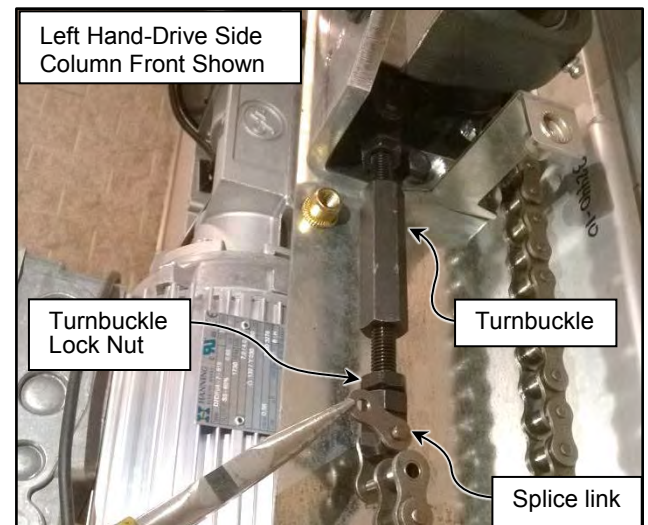

Figure 37
4. Loosen the locknuts on the turnbuckle. (See Figure 37)
5. Adjust the turnbuckle as necessary. Finish by tightening up the turnbuckle by hand, then another approximate 1-1/2 turns (with a wrench) until the chain is just tight enough to prevent coming loose or jumping off the sprockets. (See Figure 37)
6. Lock the turnbuckle in place with its jam nuts. (See Figure 37)